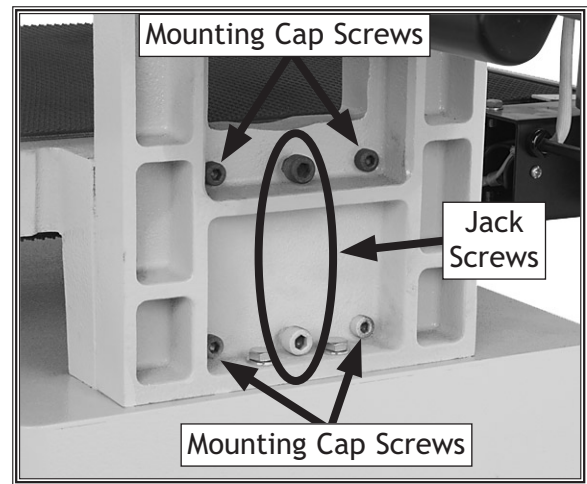

Figure 31. Column mounting cap and jack screws.
1. Loosen the four column mounting cap screws on the right side of the column base shown in **Figure 31**.